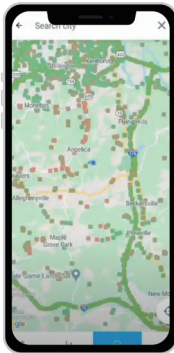

Figure 1
- 2) Insert your detail address in “Search city” box. (following figure 1)